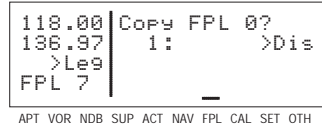

Figure 4-23
4. Press **ENT** to clear the flight plan (figure 4-23).
1. Select a numbered flight plan page which does not contain any waypoints (figure 4-23). If none exist, use the procedure described in section 4.1.6, "Deleting Flight Plans," to clear a flight plan which is no longer required.